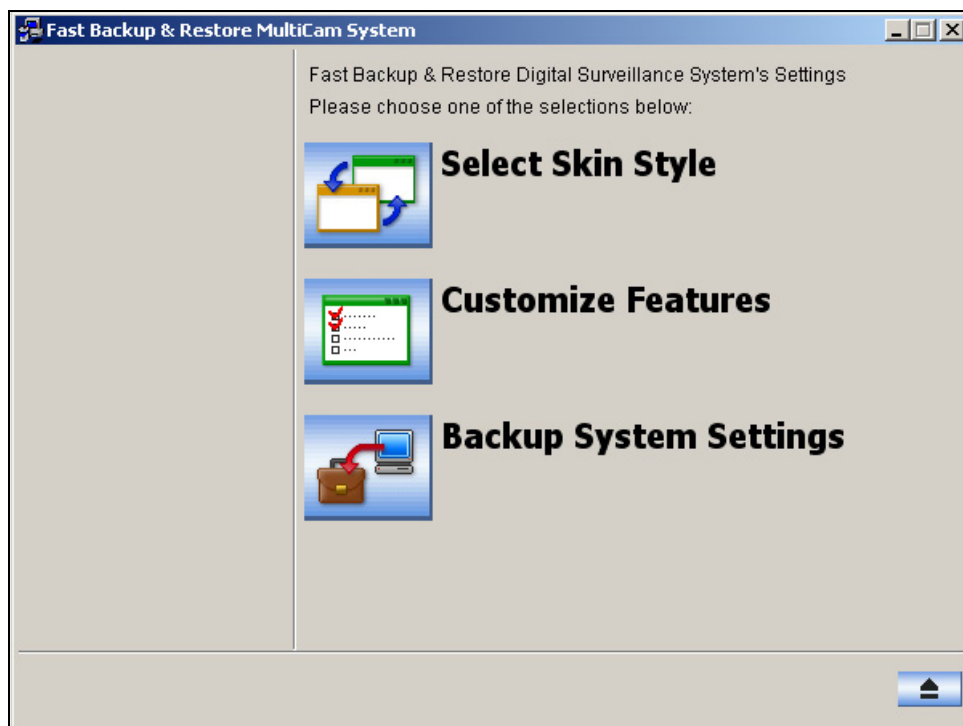

Figure 11-33 FBR Window
1. In the FBR window (see Figure 11-33), click the **Select Skin Style** icon. The option menu appears.
1. In the FBR window (see Figure 11-33), click the **Select Skin Style** icon, point to **DVR**, and then select **Custom Logo....** This window appears.
1. In the FBR Window (see Figure 11-33), click the **Customize Features** icon to display this dialog box.
1. In the FBR window (see Figure 11-33), click the **Backup System Settings** icon. This dialog box appears.